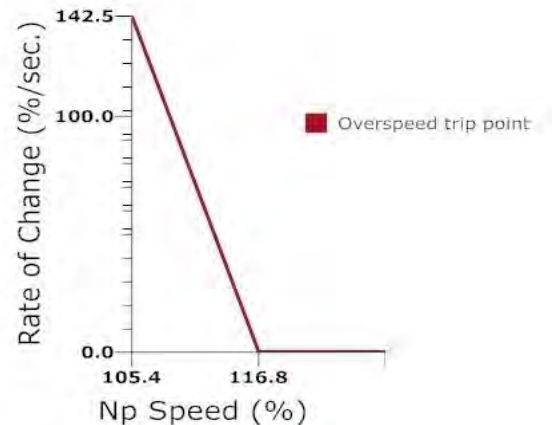

Figure 76-6: NP Overspeed Trip Point
- The second lane is a derivative lane that is enabled if N_P exceeds a power turbine trip speed set by the rate of change of N_P. This is defined by a linear relationship between the N_P speed and the rate of change; where the N_P speed is 116.8% - rate of change is zero and when the N_P speed is 105.4% - rate of change is 142.5 % per second. See Figure 76-6.